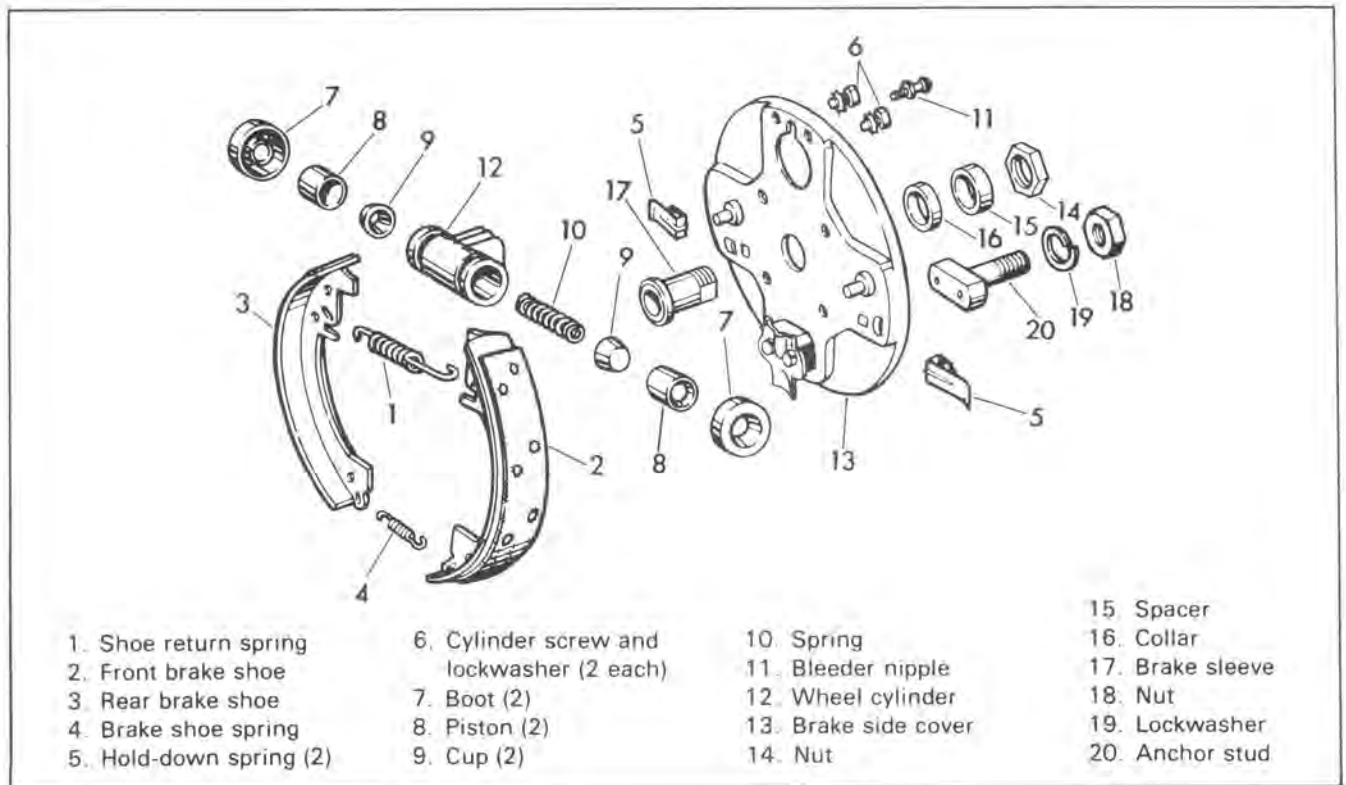

Figure 3-3. Drum Brake Exploded View
1. See Figure 3-3. Inspect brake shoes (2) and (3) for wear. Replace both brake shoes if brake lining thickness is 3/32 in. or less.
2. To remove brake shoes, remove hold-down springs (5) and springs (1) and (4).
9. After machining, check inside diameter (ID) of brake drum. The maximum ID permissible is 8.060 in. If the ID is greater than 8.060 in., replace the brake drum.
10. See Figure 3-3. Check the wheel cylinder for leakage by lifting the boots (7). If brake fluid is present, disassemble the wheel cylinder.
11. Remove old boots (7), pistons (8), cups (9) and spring (10). Be sure cylinder wall and pistons are free from burrs. Dip replacement parts in brake fluid and assemble. Never dip or wash hydraulic brake cylinder parts in gasoline, kerosene or oil. If necessary to clean parts use denatured alcohol.
ASSEMBLING DRUM BRAKE (Figure 3-3)